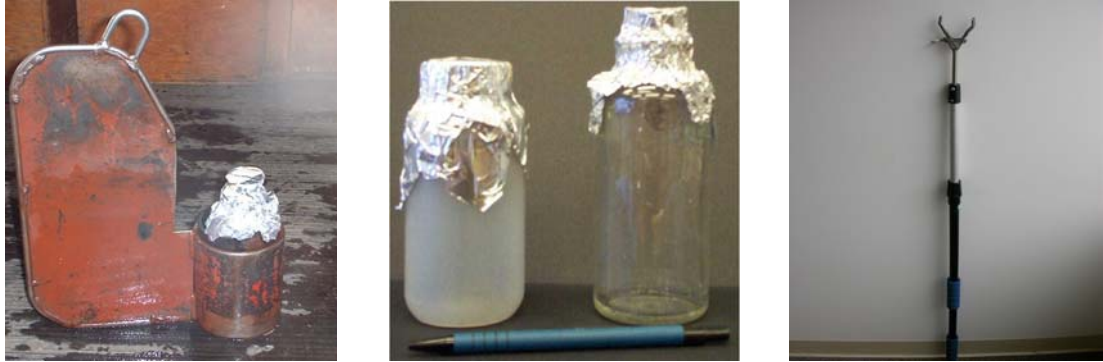

Figure 1. Left: Specialized bridge sampler with bottle. Center: 250 mL polypropylene and glass bottles. Right: Sampling extension pole.
5.2.1 The normal container for bacteria sampling is a 250-mL pre-autoclaved glass bottle (with cork stopper) or polypropylene bottle and cap. The bottle normally comes from the lab with aluminum foil wrapped over the cover to preserve sterility (Figure 1).
- 6.1.1.12 Be careful not to disturb sediment from the stream bed, particularly in slower moving waters. For slow moving streams with easily disturbed sediment, collect sample from stream bank using sampling extension pole (Figure 1).
- 6.1.4 Samples Collected using Specialized Bridge Sampler (Figure 1)
- 6.1.5.3 Use a sampling extension pole (Figure 1) to collect samples without contacting the effluent with your hands.
- 6.1.6.2 Fill a water bottle at each of three sampling sites by wading into knee deep water, unscrewing the cap and inserting the bottle and cap into the water at a 45 degree angle (with the bottle opening facing down). Turn the bottle upright a few inches below the surface and allow it to fill. Remove the cap and bottle from the water and pour off enough water to leave an air space. Cap the bottle. If possible use a sampling extension pole (Figure 1) to avoid collecting disturbed sediment.